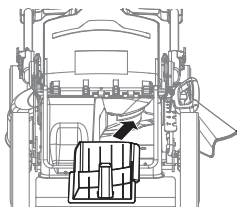
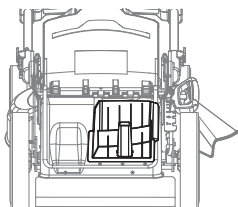

Fig. 4A
Fig. 4B
2. Insert the mulch plug and ensure it is locked in place. You will hear a click when it is securely locked (Fig. 4A/ Fig. 4B).